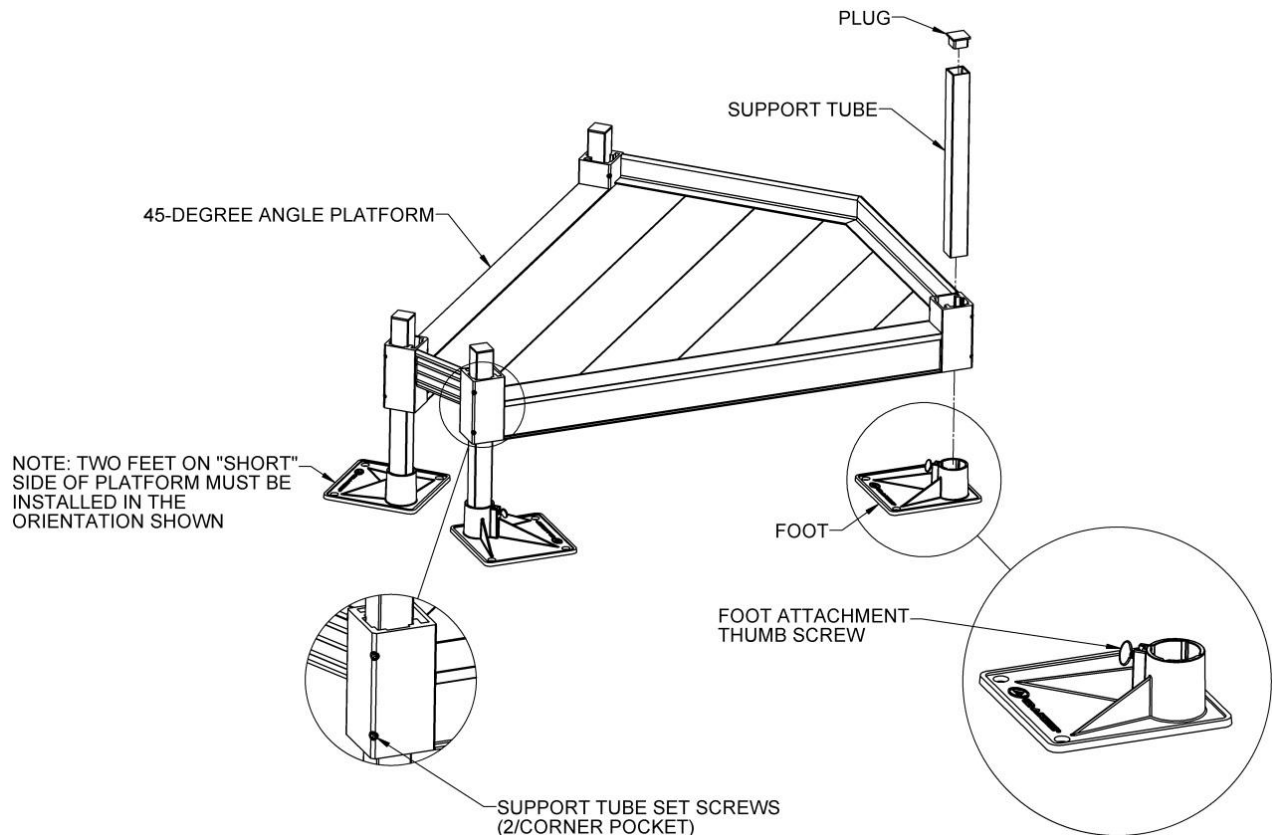

FIG. 2.8
- 2.4.2. Set platform on one of the sides where the ramp will attach and install legs and feet and adjust height as described previously in this section. The two legs on the short side must be installed in the orientation shown (FIG. 2.8)